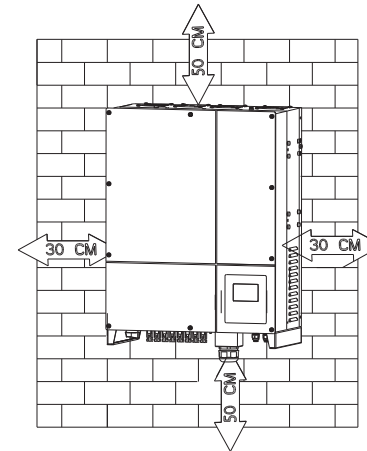

Fig 5.2
- 2) The location selected must be suitable for inverters' dimension. (Refer to 3.3 Dimensions and Fig.5.2 Required Clearances)
- 10) Notice the minimum clearances of the inverter. (Refer to Chapter3.2 and Fig.5.2 Required Clearances).